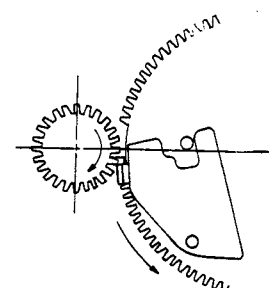

Fig. 7
4. When the record has finished, the pickup comes to the run-out groove with a larger pitch. At this time the engagement advances more than it is reversed by the projection so that their respective positions are as shown in Fig. 7. Consequently the projection pushes the engagement and the main gear is turned. The notch moves and the turntable spindle gear becomes engaged with the main gear. This causes the lead-out* sequence to start.